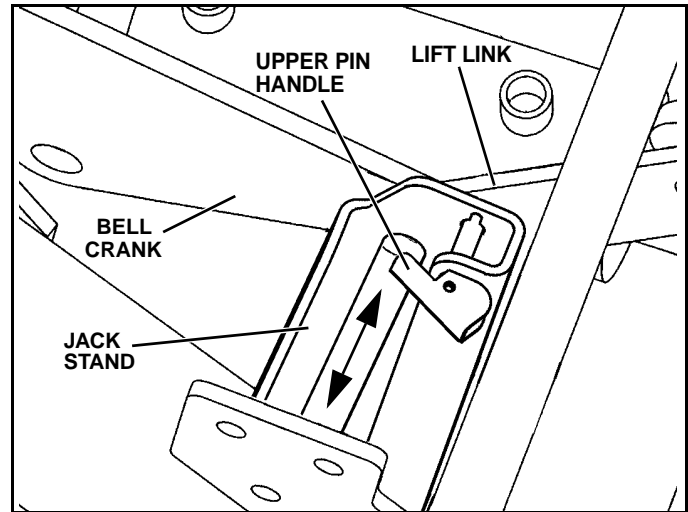

Figure 1-26
6. Disengage lower jack stand pin by pulling on handle. Lower the jack stand and engage the top pin by pushing on the handle. Make sure pin is engaged in hole by rotating jack stand back and forth. (See Figure 1-26).